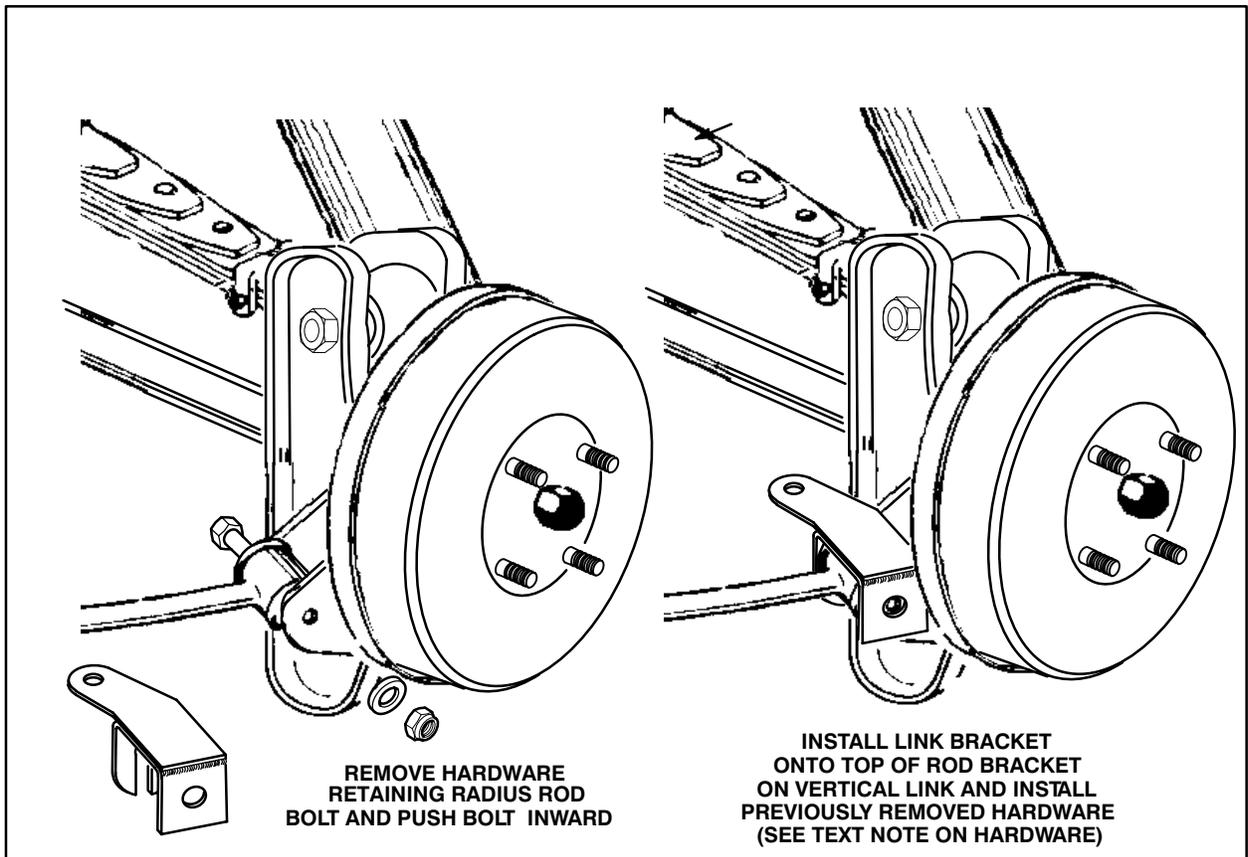

Figure 4 – Outer Link Side Bracket Installation (Left side shown)
2. Install the side bracket as shown in Figure 4. The side bracket should be located on top of the radius rod end, with the ear toward the centerline of the car and facing slightly forward.